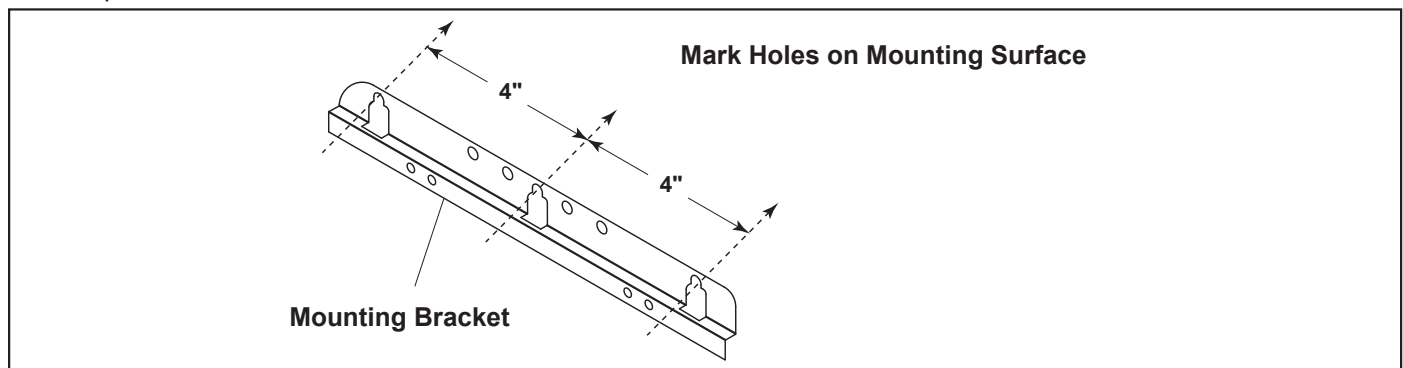

**Figure 6. Removing the Control/Power Center Mounting Brackets from Shipping Position**
1. Locate the control/power center at least five (5) feet or more away from pool/spa and five (5) feet off the ground. All national, state, and local codes are applicable.
**NOTE** For Canadian installations, the control/power center must be at least three (3) meters (9.8 feet) away from the pool/spa and 1.5 meters (5 feet) above the ground.
2. The control/power center comes with two (2) full length, heavy duty mounting brackets *fastened* to the back of the power center during shipping. Remove the four (4) screws that are holding the two (2) brackets and the cardboard shipping cover in place (see Figure 6). Remove and discard the cardboard.